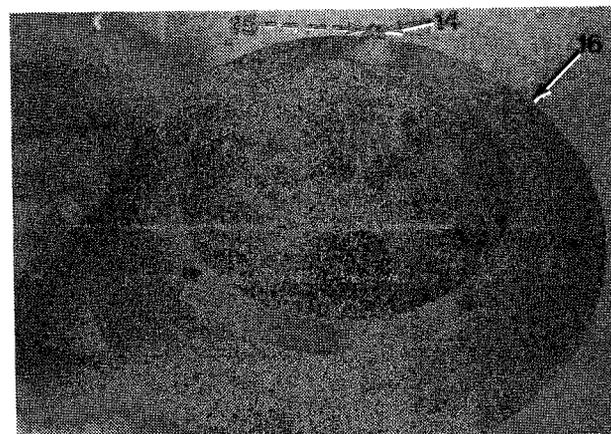

Figure 16-6
6. Remove adapter (14) and O-ring (15) from brake cylinder (16, Figure 16-6).